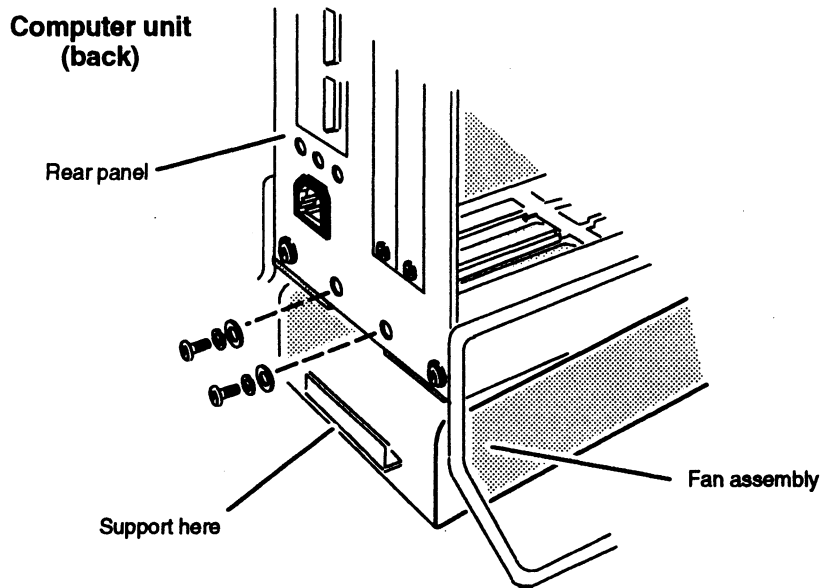

Figure 10-2 Releasing the Fan Assembly from the Back of the Computer Unit
2. To prevent the assembly from dropping when you remove the securing screws, support the bottom of the back of the fan assembly with one hand. Then use a medium Phillips screwdriver to remove the two screws and washers that secure the fan assembly to the back of the computer unit, as shown in Figure 10-2.